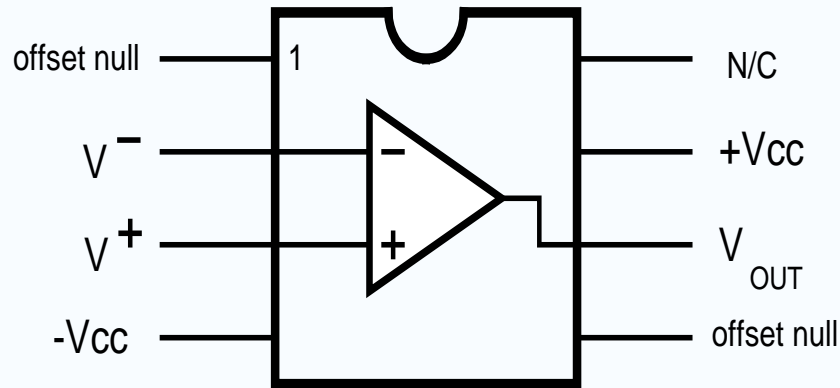

Fig. 12.6. Pin assignment for the LM741 op-amp in an 8-pin DIP.
The 741 op-amp is available in a variety of packages. One of these packages is an 8 pin DIP (dual in-line package) shown in Fig. 12.6.
a) *Provide a drawing (Use the package outline and pin numbers in Fig. 12.6.) of your circuit that also shows the power supply and oscilloscope connections. Provide sketches of the oscilloscope display showing the input and output signals. What is the amplitude of the output sinusoidal signal? Be sure to know the oscilloscope vertical sensitivity volts/div setting. Is there a sign reversal from input to output?*